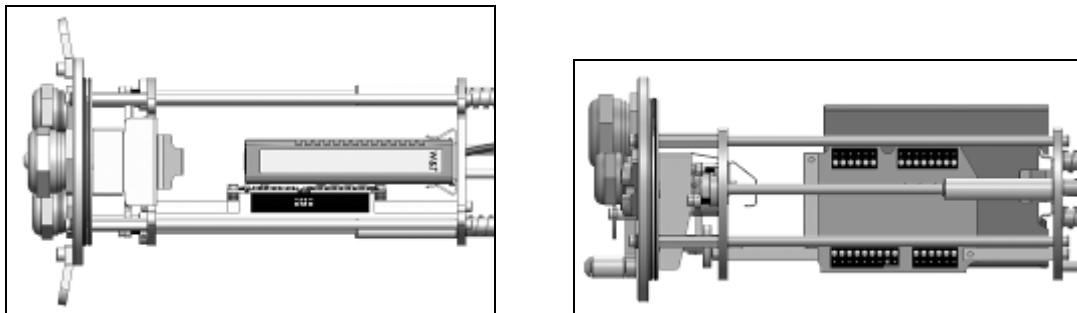

Figure 50 (a + b): Fitting the USB server Gigabit into the chassis (top view and right hand view)
6. Engage the USB server Gigabit to the DIN rail plate (**Figure 50**).